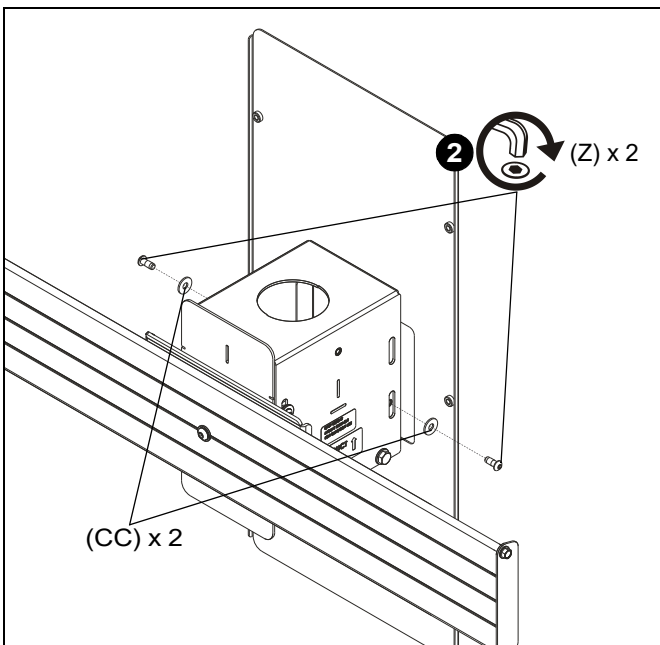

Figure 5
2. Use two 1/4-20 x 5/8" cap screws (Z) and two 1/4" washers (CC) to secure center wind shield (K) to sides of mount assembly (H). (See Figure 5)